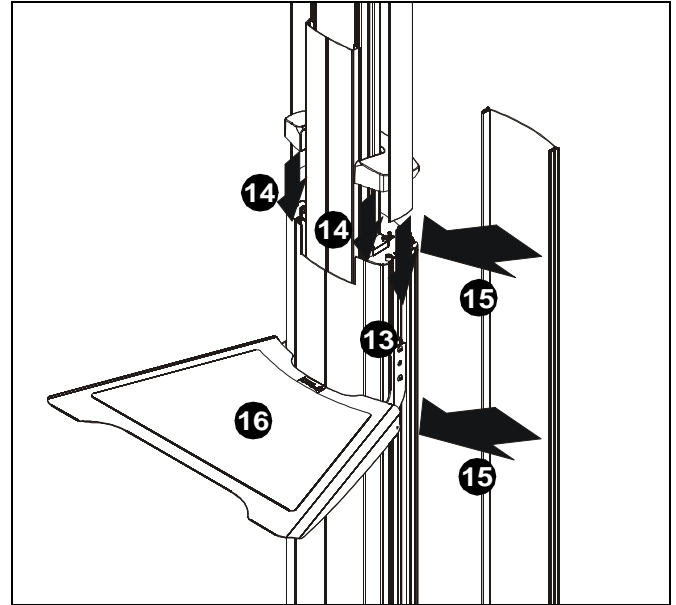

Figure 5
13. Reinstall side covers into side slots on cart/stand column. (See Figure 5)
14. Reinstall column inner cover to cart/stand column. (See Figure 5)
15. Reinstall back cover to cart/stand column. (See Figure 5)